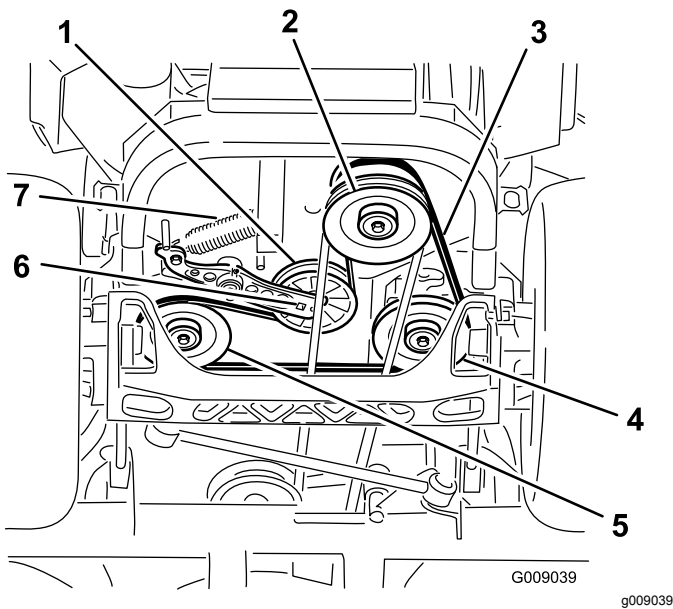

Figure 82
4. Raise the machine and support it with jack stands (Figure 82).
5. Use a ratchet in the square hole in the idler arm to remove the idler spring (Figure 82).
6. Unhook the idler spring from the frame (Figure 82).
9. Using a ratchet in the square hole in the idler arm, install the idler spring to the frame (Figure 82).